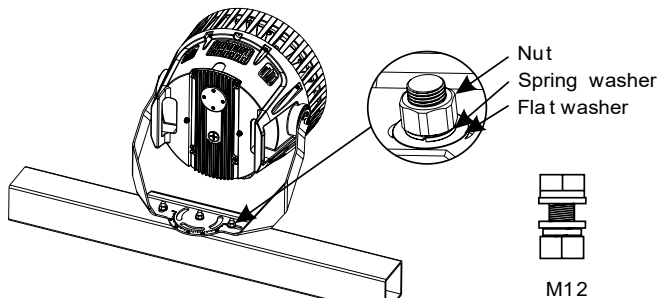

Figure 7
3. Install the luminaire on the crossbar and secure it with nuts, spring washers, and flat washers (Figure 7).